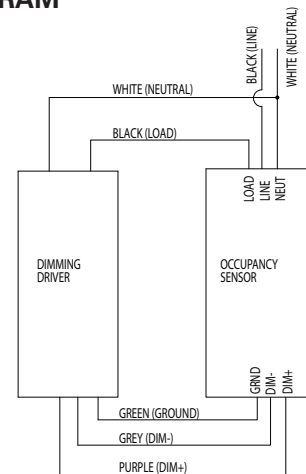

Figure 2
2. Locate the power wires, ground wire and dimming wires in driver housing. Wire occupancy sensor to light luminaire wiring according to wiring diagram in Figure 2. Refer to IF 1726 for wiring diagram of IHB luminaire. The occupancy sensor kit includes six (6) solid copper wires, two (2) 5-pole lever lock connectors and one (1) 2-pole lever lock